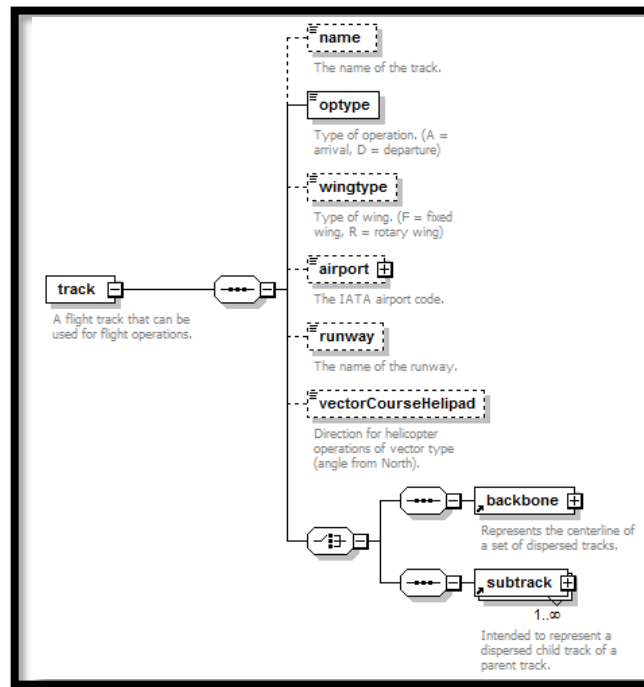

Figure 47- xml element track
9. **AsifXml/trackOpSet/track (Figure 47):**